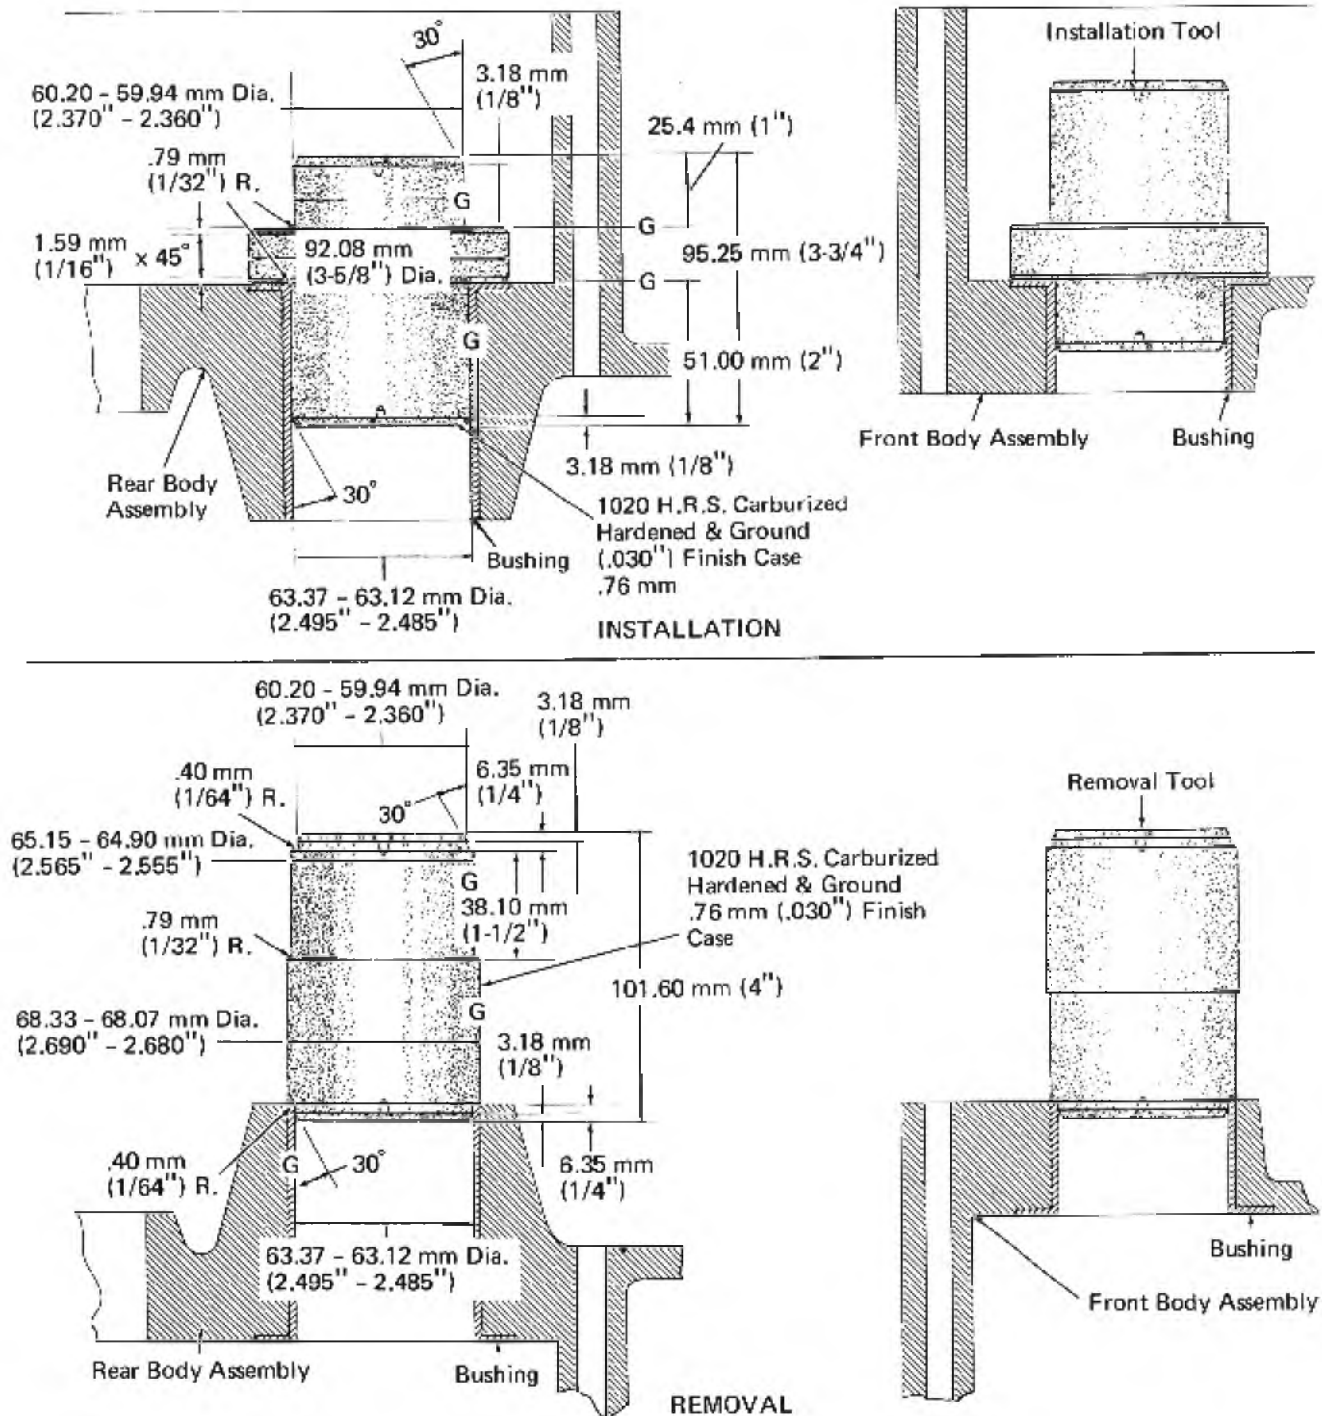

Fig. 9-13 - Oil Pump Body Bushing Tools
3. Replace the bushings if any other adverse conditions exist. Details of construction and application of bushing installation and removal tools are shown in Fig. 9-13.